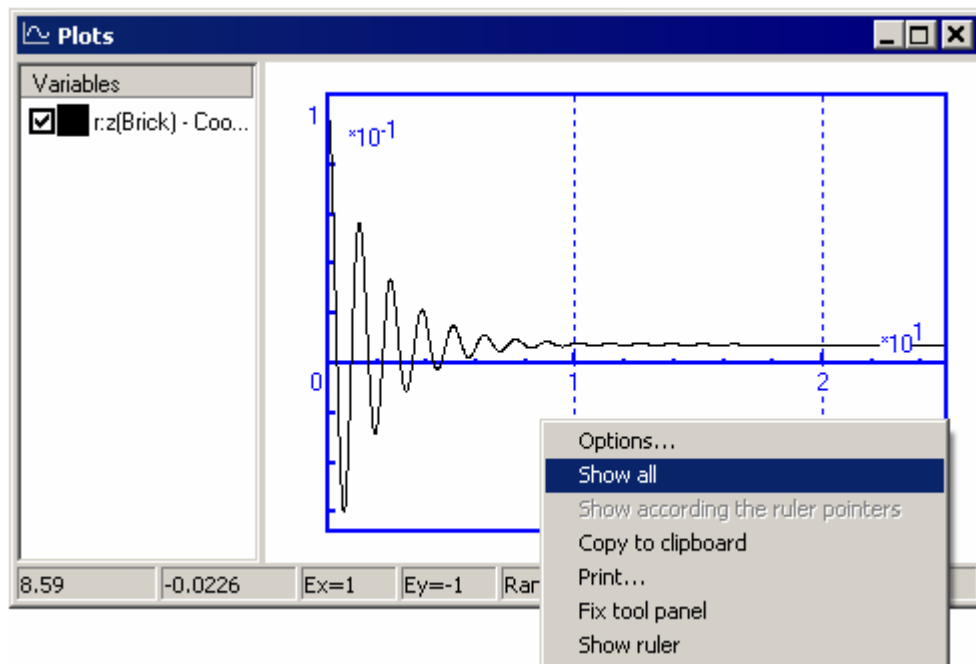

Figure 2.9. Graphical windows after the first experiment
12. Click the **100%** button in the drop-down tool panel in the top or click the **Show all** menu command in the context menu, see the Fig. 2.9. Plot now fits the window.